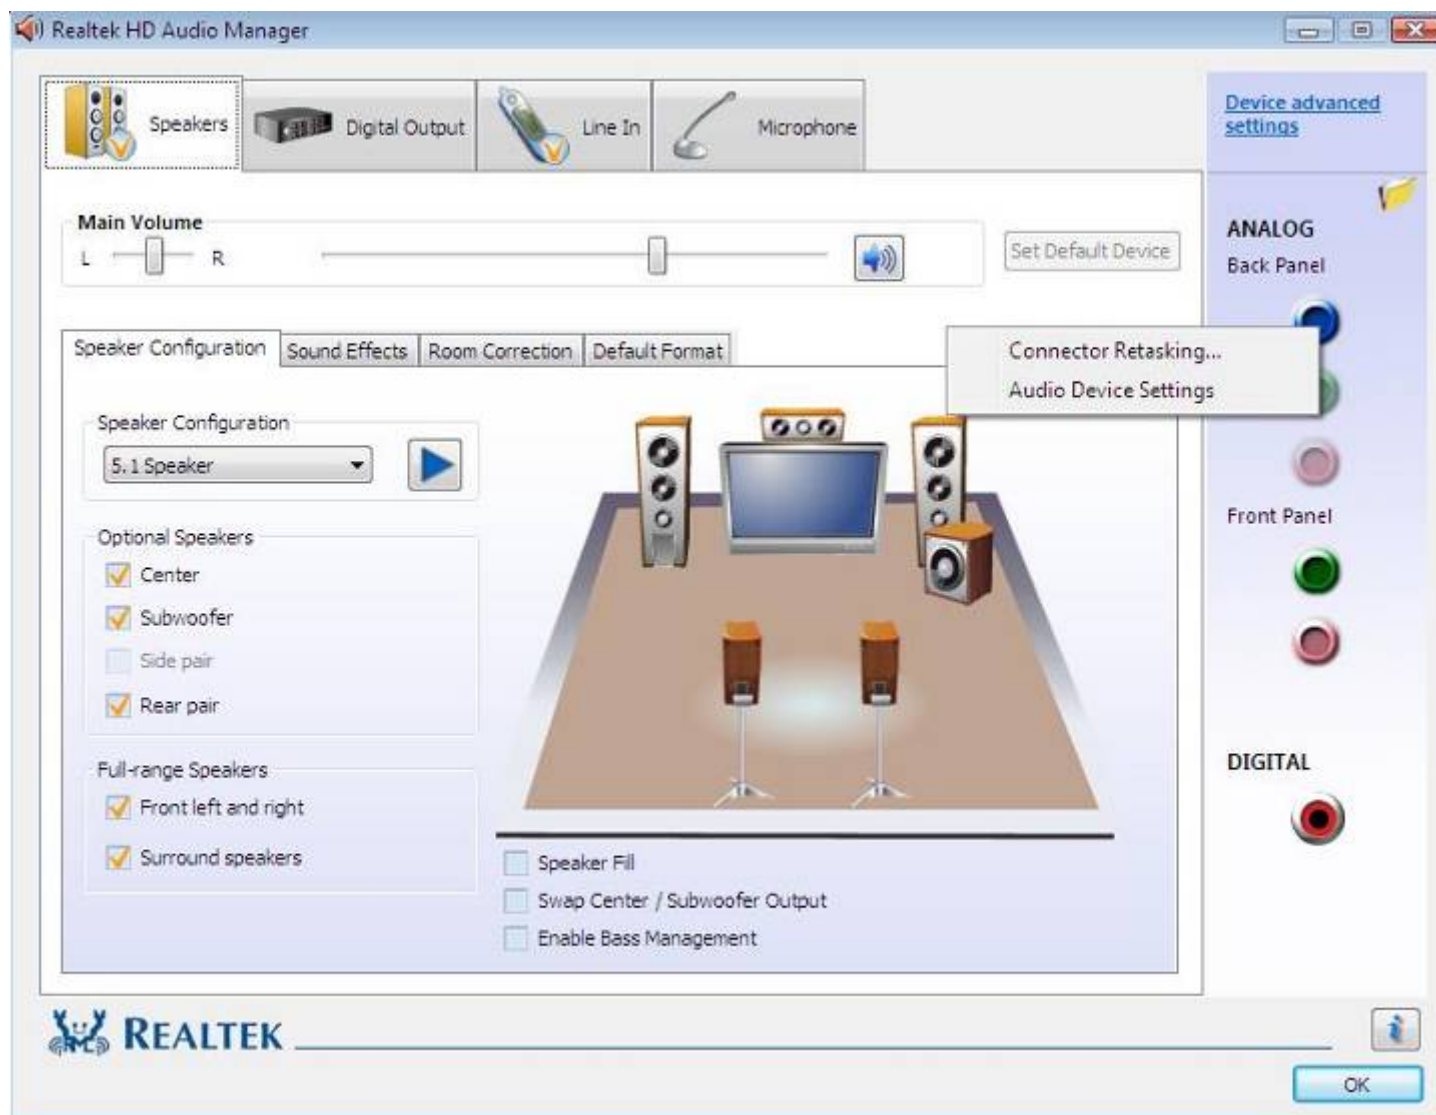

Fig 14
5. If you need to set the output of multi-channel, you should right click the mouse at the corresponding output interface. A dialog box will pop up, as shown in Fig. 14.